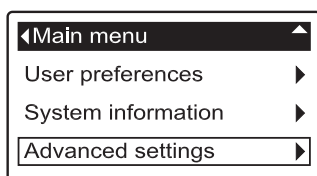

FIG. 17
2. From any of the rolling status screens, press the softener's SELECT (O) button to display the **Main menu**.
3. Press the softener's DOWN (▼) button to scroll through the menu options until **Advanced settings** is highlighted (See Figure 17).